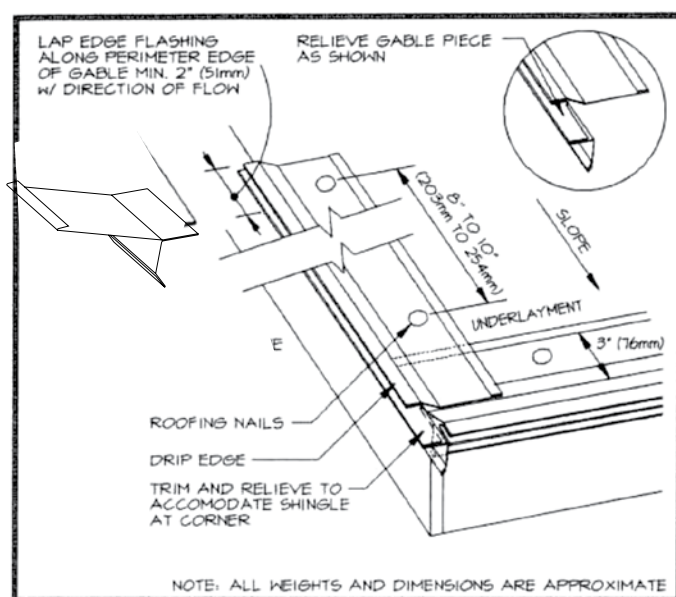

FIGURE 3-1 FLASHING DETAIL AT EAVES AND GABLE (RAKE) USING CUT AND FOLD METHOD
- B. Install the #21 Eave Starter as shown in Figure 3-1. Particular attention should be given to the area where the eave starter metal and the gable (rake) flashing intersect. By cutting and removing a small portion of the bottom end of the gable (rake) flashing, makes the installation of this intersection point and the shingles relatively easy.
- A. Install the #21 Eave Starter in the gable (rake) area as shown in **Figure 3-1**. Gable (Rake) flashing joints must be lapped a minimum of 2 inches (50 mm) and in the direction of water flow.